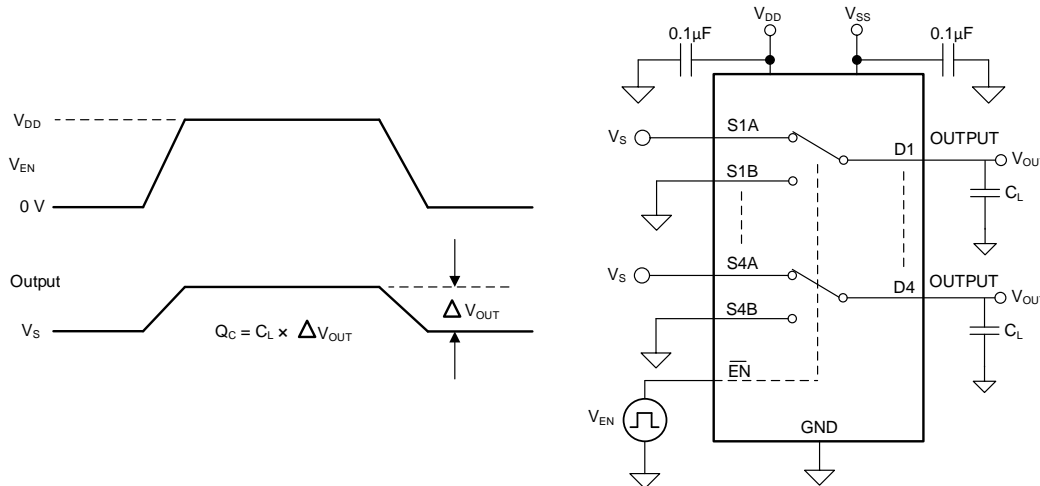

Figure 22. Charge-Injection Measurement Setup
The TMUX1133 has a transmission-gate topology. Any mismatch in capacitance between the NMOS and PMOS transistors results in a charge injected into the drain or source during the falling or rising edge of the gate signal. The amount of charge injected into the source or drain of the device is known as charge injection, and is denoted by the symbol Q_C . Figure 22 shows the setup used to measure charge injection from source (S_x) to drain (D).